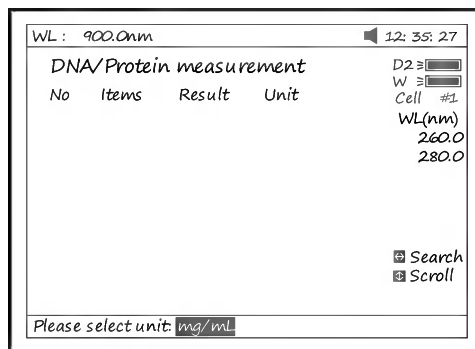

Fig 64
3. Press **[F3]** to select the unit of concentration (Fig 64).